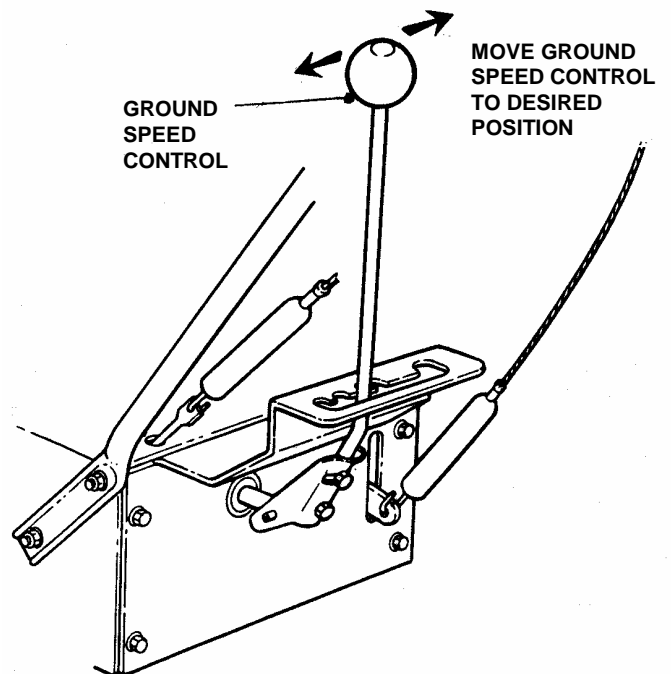
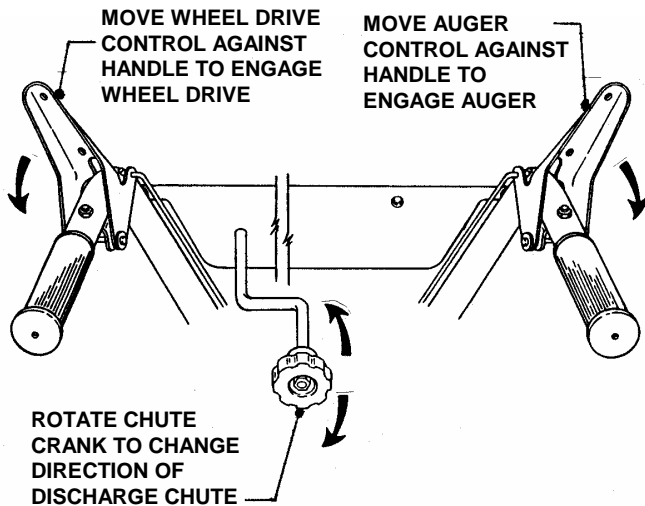
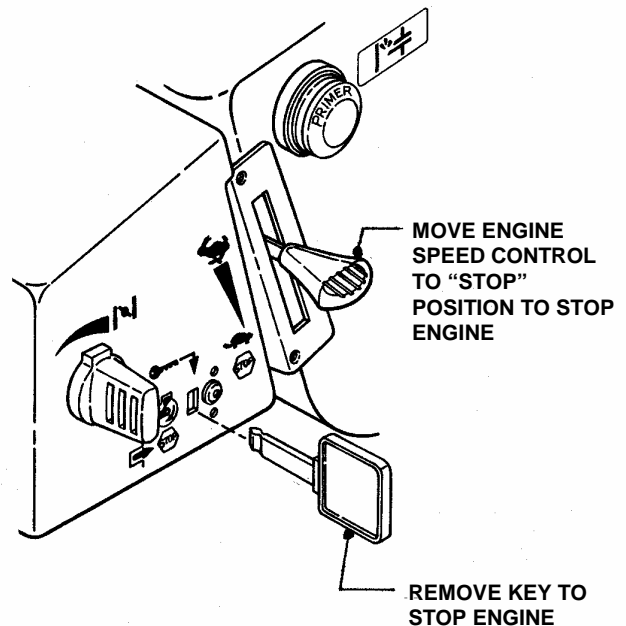

FIGURE 2.5
FIGURE 2.6
FIGURE 2.7
1. Move ground speed control to the desired speed position. See Figure 2.5.
1. Move auger control lever against handle to engage auger. See Figure 2.6.
1. Move wheel drive control lever against handle to engage wheel drive. See Figure 2.6. Ground speed can be changed while the machine is in operation by changing position of the ground speed control. **IMPORTANT:** This snow thrower has four forward speeds and one reverse speed. Refer to Figure 2.5.
1. Release auger control and wheel drive control levers to allow auger and ground speed to come to a complete stop. Refer to Figure 2.6.
3. Rotate chute crank to position discharge chute in desired direction. See Figure 2.6.
Stop the auger and wheel drive by releasing the auger and wheel drive control levers. Refer to Figure 2.6. Stop the engine by removing the key from the switch or moving engine speed control to the STOP position. Always remove key from key switch before leaving machine unattended. See Figure 2.7.
1. Move ground speed control to the desired speed position. Refer to Figure 2.5.
1. Pull auger control lever against handle to engage auger. Refer to Figure 2.6.
1. Move wheel drive control lever against handle to engage wheel drive. Ground speed can be adjusted while the machine is moving by changing position of the ground speed control. Machine has four forward speeds and one reverse. Refer to Figure 2.6.
3. Rotate chute crank to position discharge chute in desired direction. Refer to Figure 2.6.
Stop the auger and wheel drive by releasing the auger and wheel drive control levers. Stop the engine by moving the engine speed control the stop position or removing the key from the switch. Always remove key from key switch before leaving machine unattended. Refer to Figure 2.7.